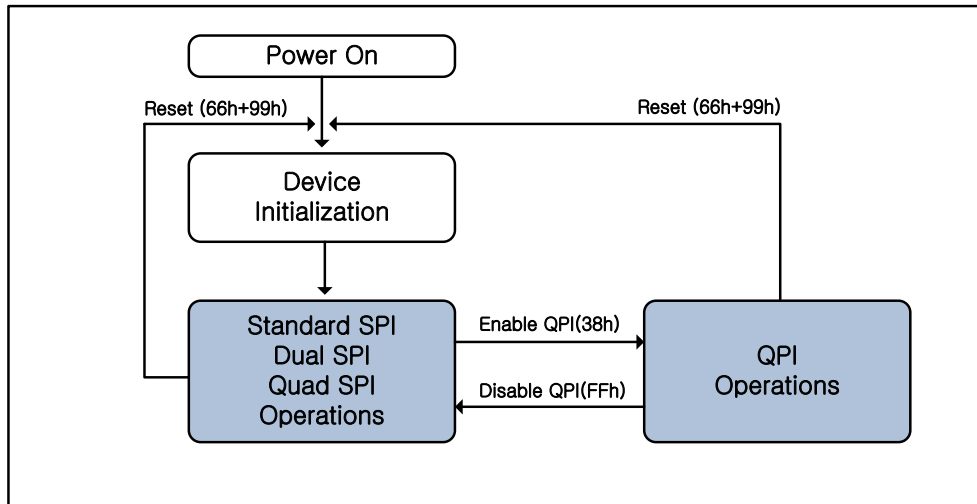

Figure 3. SPI / QPI Operation Diagram of FM25M32A
The FM25M32A supports Quad Peripheral Interface (QPI) operation when the device is switched from Standard/ Dual/ Quad SPI mode to QPI mode using the “Enable QPI (38h)” instruction. To enable QPI mode, the non-volatile Quad Enable bit (QE) in Status Register-2 is required to be set. When using QPI instructions, the DI and DO pins become bidirectional IO0 and IO1, and the /WP and /HOLD pins become IO2 and IO3 respectively. See Figure 3 for the device operation modes.